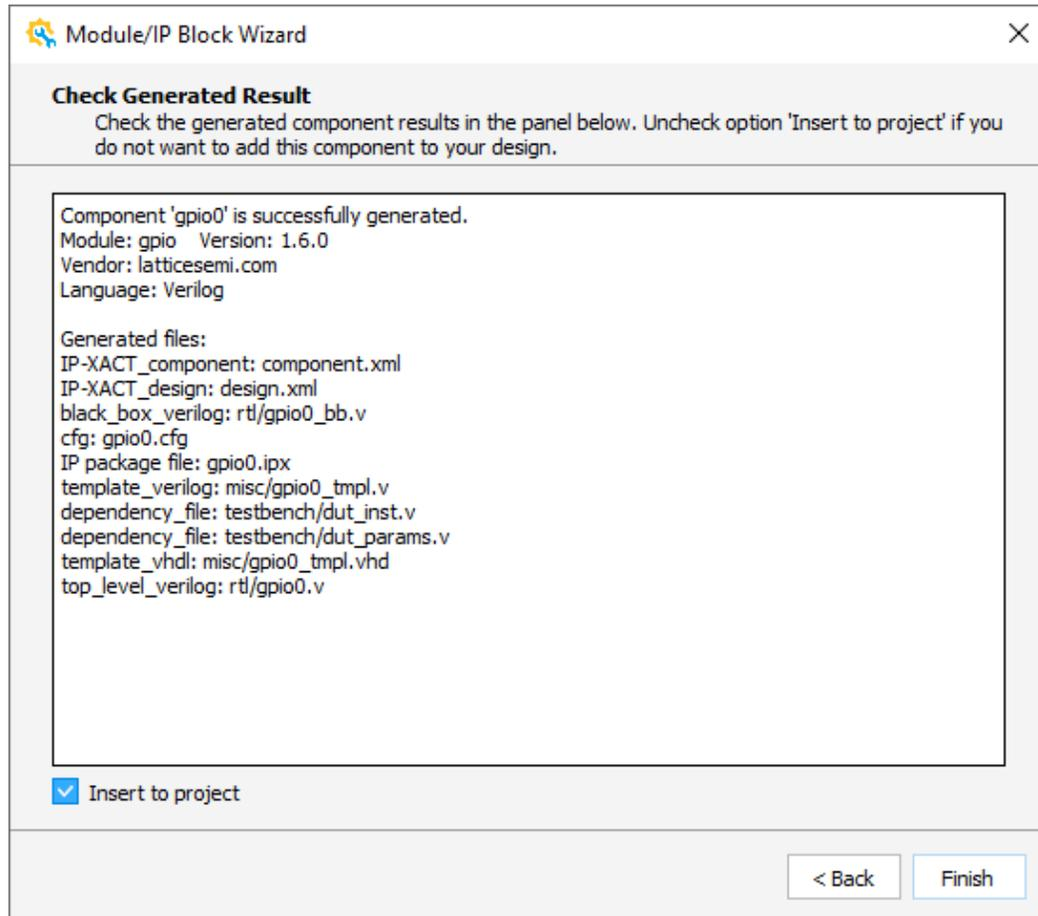
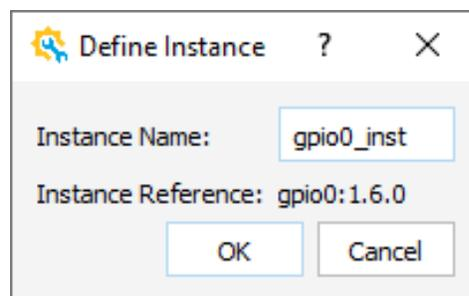

Figure 2.42. Module/IP Block Wizard – Check Generated Result
Figure 2.43. Design Instance Dialog Box
- Click **Generate**. Module/IP Block wizard shows the Check Generated Result page (Figure 2.42).
- Select **Insert to project** (Figure 2.42) at the bottom of the Check Generate Result wizard, so that a **Define Instance** dialog box pops up as shown in next step. Or, this dialog box does not appear.
- After selecting **Insert to project**, click **Finish** (Figure 2.42). The **Define Instance** dialog box opens (Figure 2.43).